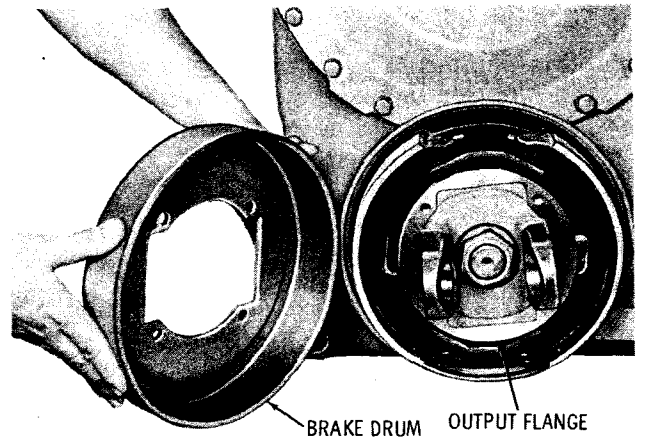

Fig. 7-46. Installing parking brake drum
(5) Install the brake drum onto the output flange (fig. 7-46), then rotate the drum 90° (refer also to fig. 5-3). Attach the brake drum with four 3/8-24 x 5/8-inch, self-locking bolts. Tighten the bolts to 41 to 49 pound feet (56 to 66 Nm) torque.
(6) Install spacer 4 (A, foldout 8) if used, onto the output shaft, and install the